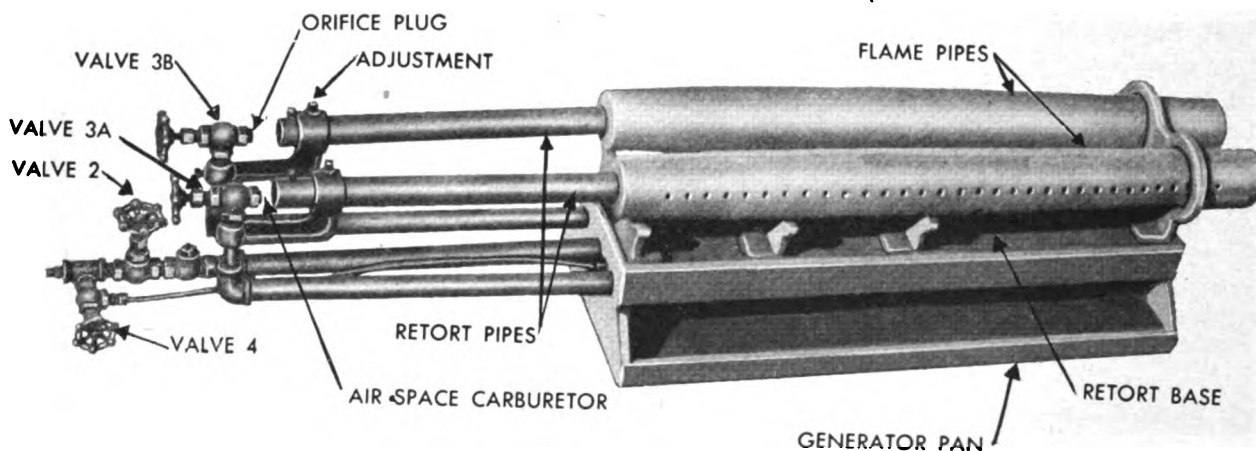

Figure 74. Burner, oven, bake, Army field, No. 1 (Wynne oil burner) (65-A-1058).
a. The Wynne oil burner (fig. 74) is a portable kerosene burner designed especially to furnish heat for the field bake oven No. 1. It should be placed in the fire trench on a grate, or on bricks about 18 inches below the oven.